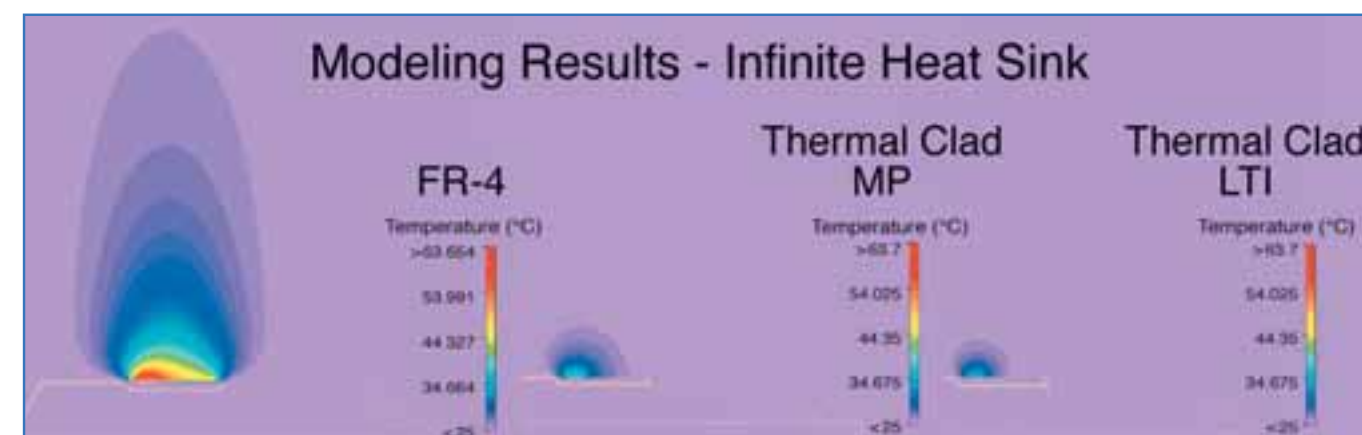

Figure 6. Modeling Results – Infinite Heat Sink.
Thermal Clad circuit board materials are available from The Bergquist Company in two different thermal conductivities. Multi-Purpose (MP) and Low Thermal Impedance (LTI). Figure 6 illustrates the modeling results of a Cree XB900 die mounted on each of these circuit board materials, along side an FR-4 board. This thermal model shows the temperature of the die when a constant current is applied to the die on different circuit board materials. The Cree die is modeled on two-ounce circuit foil, .020" square. Tin gold eutectic die attach was utilized with gold wire bonds to complete the circuit. Power dissipation was set at one watt. The resulting die temperature for the FR-4 is 63.7°C, MP is 36.9°C and LTI is 34.2°C.